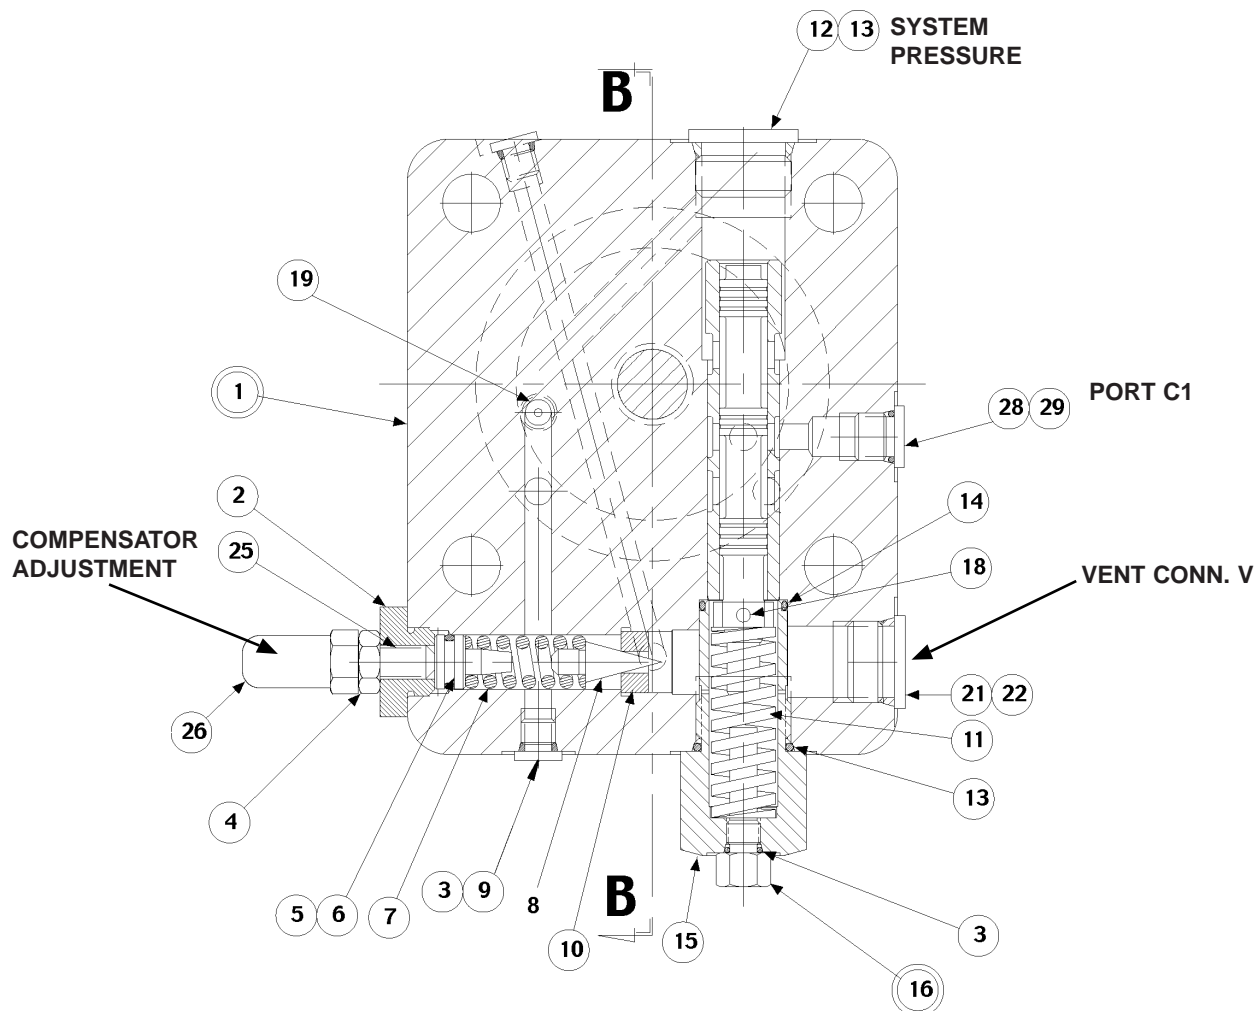

FIGURE 6
1. **See Figure 6.** Back off max. volume screw or handwheel to full displacement. Remove max. volume screw or handwheel assembly.
3. Remove plug (15) and attached parts. Remove spring (11) and spool (18).
4. Remove adjusting plug (2) and attached parts. Remove seal piston (5). Note: a 10-24 screw may be used to assist in pulling the piston. Remove spring (7) and cone (8).
5. Do not remove sleeve in body (1). Sleeve is pressed into cap and finished to size. If sleeve or cap is worn, replace the cap-sleeve assembly (1).
6. Examine seat (10) for wear. Do not remove unless damaged.
PARTS LIST FOR FIGURE 6